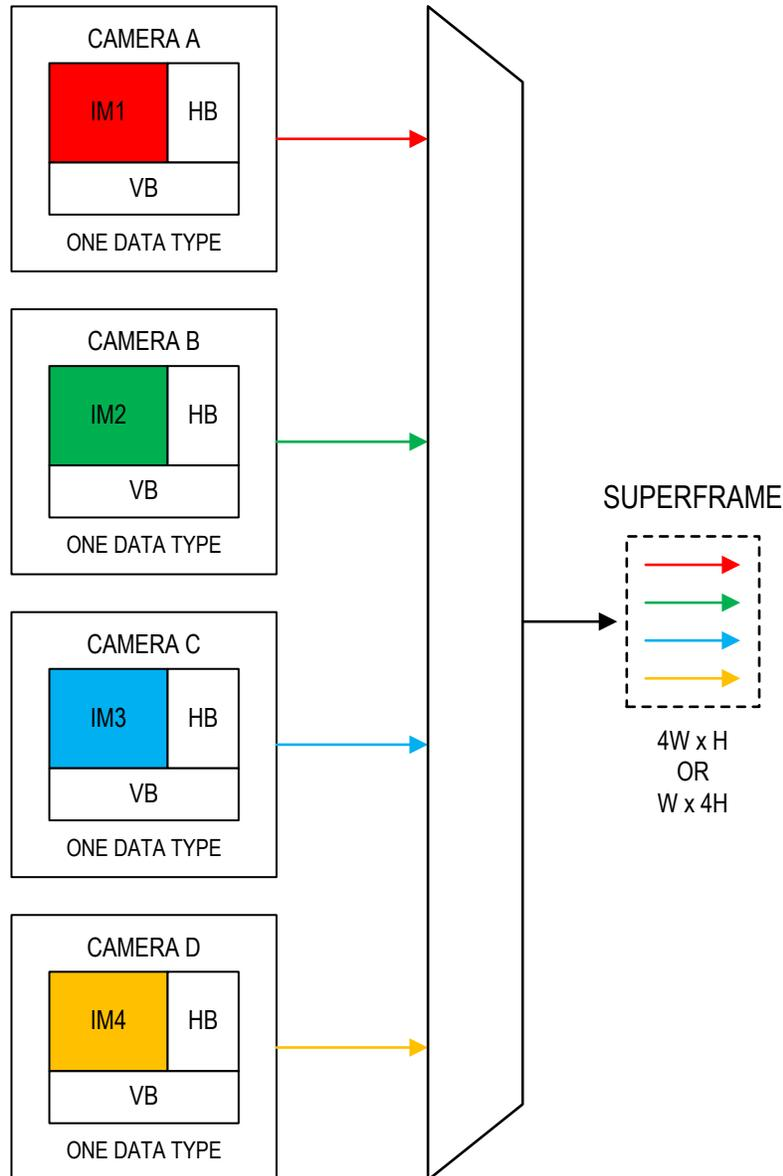

Figure 18. Video Pipe Input and Concatenated Super frame Output
Typically, video data from multiple video pipes can be aggregated via mapping to one MIPI port through a virtual channel (VC) on a first-come, first-served (FCFS) basis. However, in some cases the SoC cannot parse VCs, and it is recommended to combine multiple streams into a single super frame (Figure 18). The SoC can then manipulate the data and separate the images if needed. This operation requires that pipe-to-controller mapping be disabled and that video sources be frame-synchronized. In this mode, all video streams share a single VC. This is also referred to as synchronous aggregation. Table 23 contains frame concatenation registers.